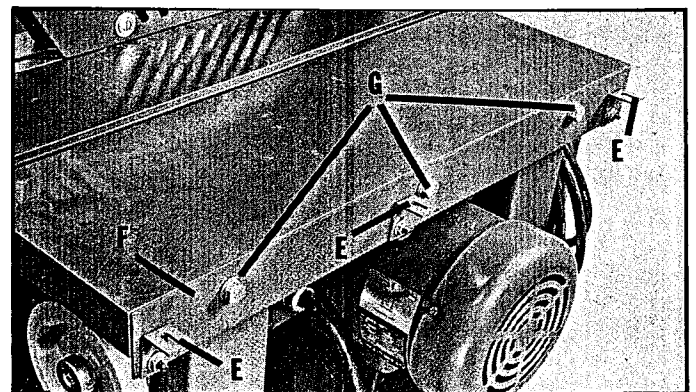

Fig. 22
4. Assemble the adaptor plate (F) Fig. 22 supplied with the RT-31, to the right side of the saw table, as shown, using three M10 x 18mm hex head screws (G) and 10mm flat washers supplied. Before tightening screws (G) make sure top of adaptor plate (F) is flush with or slightly below surface of saw table. Also, be certain that the front edge of the adaptor plate (F) does not extend beyond the front of the saw table.
5. Assemble the three brackets (E) to the adaptor plate (F), as shown in Fig. 22, using three 1/4-20 x 3/4" carriage bolts, washers and nuts supplied. NOTE: The long leg of the brackets (E) should be against the adaptor plate (F) as shown. Do not completely tighten brackets (E) to adaptor plate (F) at this time.